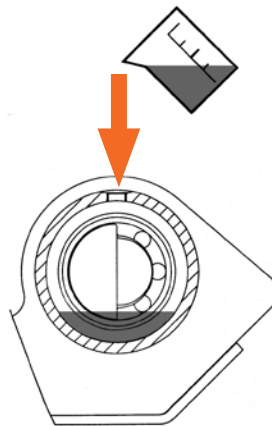

Figure 14
7. Fill exciter with 2.70 fluid ounces/80ml (2.0 fluid ounces/60ml for the Model 104950) of automatic transmission fluid, Dextron III or equivalent, (see Figure 14).